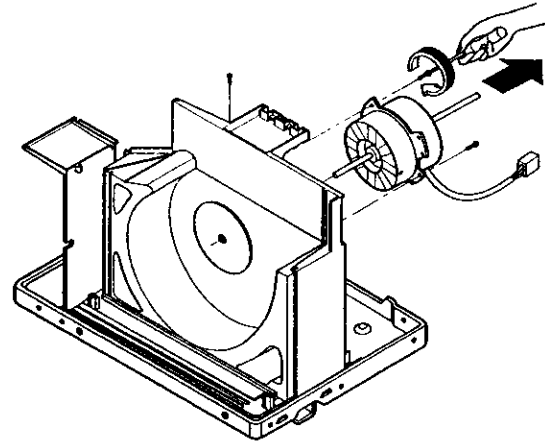

Figure 10
7. Remove 2 screws that secure the motor to the air guide. (See Figure 10)